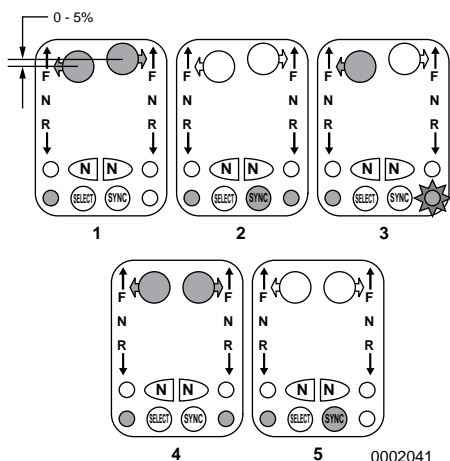

Figure 15
2. Match all engine shift and throttle settings by moving the active port and starboard control head levers to within 5% of each other (**Figure 15, (1)**) and press the SYNC button (**Figure 15, (4)**) on the control head. The sync lamp flashes if the handles are not within 5% of each other (**Figure 15, (3)**). The sync lamp will stop flashing and remain continuously lit (**Figure 15, (4)**) when the levers are moved to within this 5% range.